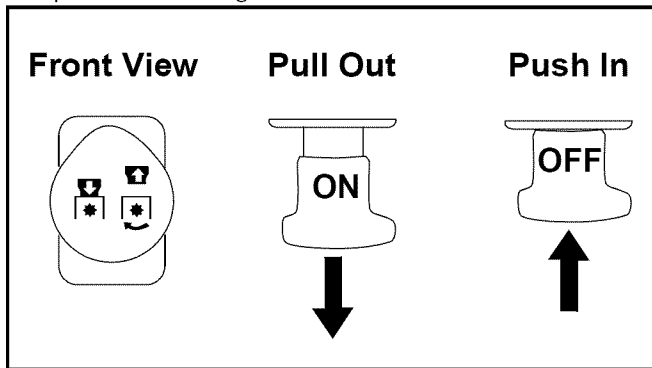

Figure 13
- Pull the PTO knob outward into the engaged (ON) position. See Figure 13.